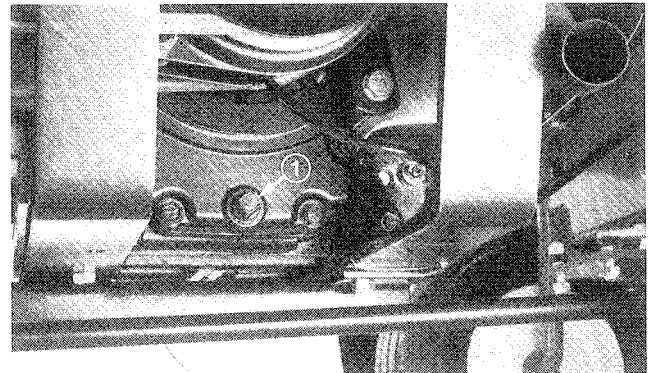

Figure 20
1. Place an oil drain pan below the drain plug on left side of crankcase. Clean area around drain plug (Fig. 20).